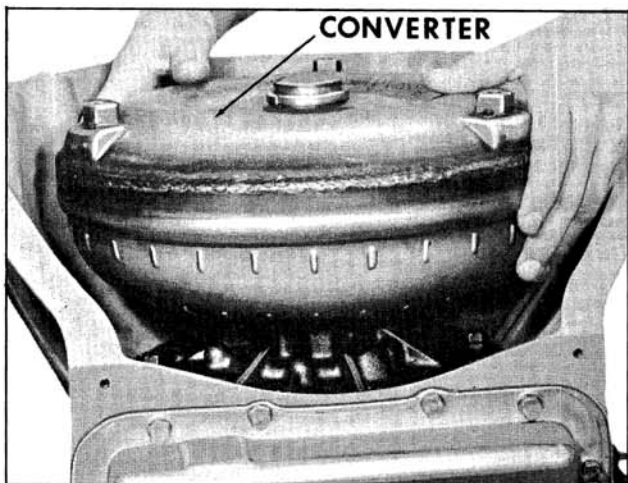

Fig. 6-345 Removing Converter
1. With transmission in horizontal position remove converter holding tool and pull converter from case. (Fig. 6-345)